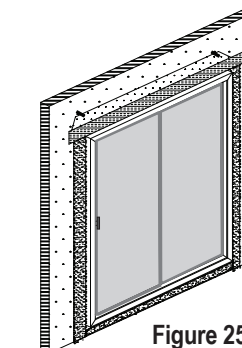

Figure 25
B) Cut a piece of self-adhered flashing for application at the head of the door. Flashing must extend a minimum of 1" beyond the jamb flashing that was applied in the previous step. Apply flashing over the head mounting fin. Use a J-roller to remove bubbles or creases. **See Figure 25**